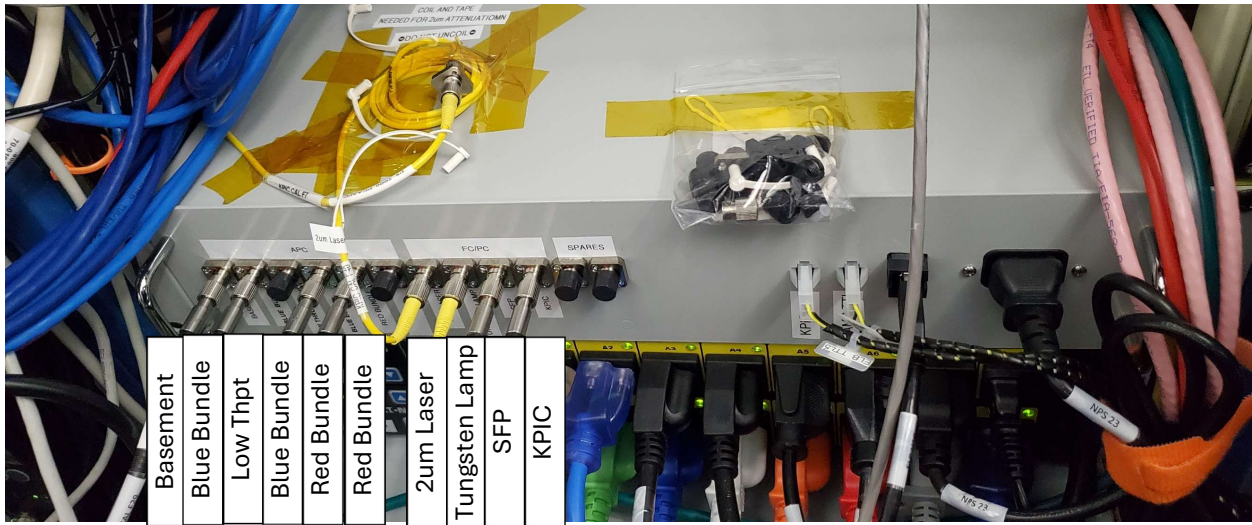

Figure 3: Photo of the optical switch box as-installed in the K2 E-Vault. The overlaid textboxes reflect the labels on the box for easier viewing.
The Laser frequency Combs (LFCs) are in the basement of Keck. They are passed through remotely-controllable variable optical attenuators. A 2x2 MEMs-based optical switch is used to select which LFC is sent up to the Nasmyth platform, into the adaptive optics room, and then over to the electronics vault. In the electronics vault, the LFC light is injected into the input port of a 1x6 switch which is mounted in an optical switch box with two other switches (see Figure 2). The LFC light is intended to be sent to the breakout fibers at the output of both the KL and yH bundles – these are fibers built into the outputs of each bundle that can be injected to without having to feed them into the front of the bundles (see Figure 3). The fibers are typically on the edge of the output pseudo slit. In this way, LFC light can be projected into NIRSPEC during a science exposure. It can also be sent into the other two switches to either the input of the Keck AO bench (known as the Source Fiber Positioner – SFP) or to the input of KPIC. This means it could be used as a light source for daytime calibrations if needed (not baselined) or to spectrally calibrate the entire beam path.
Figure 3: Schematic of the yH bundle. The four broken out fibers at the input (left side) that are used for retro-feeding 1.55-micron light are shown. At the output, CR and CB are used to feed the LFCs to NIRSPEC.
- This “with” command will send the light to a low-throughput, disconnected port on the 1x6 (see Fig. 3 earlier in this doc), such that the light is trapped in the KPIC switch box and is not forwarded to the K2AO bench.